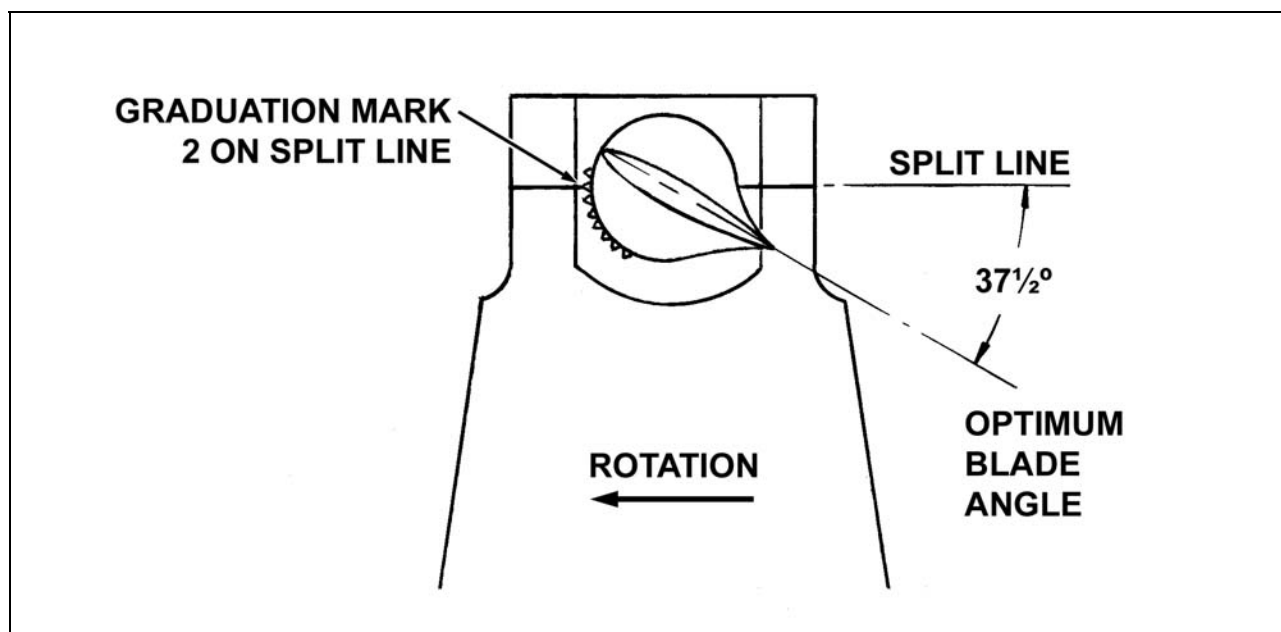

Fig. 4 – Setting Marks on Blade
All AU8000 sprayheads are supplied with the fan blades pre-adjusted to angle setting number 2 (see Fig. 4). This setting should be satisfactory for the majority of applications.
5. Adjust all four blades of the atomiser to a finer or coarser angle as required. See Fig. 4 for positions of setting marks. The blades should not be set finer than position 1 or coarser than position 6. NOTE: For accurate alignment, the graduation mark and the split line, view through the 10 mm hole in the atomiser support ring.